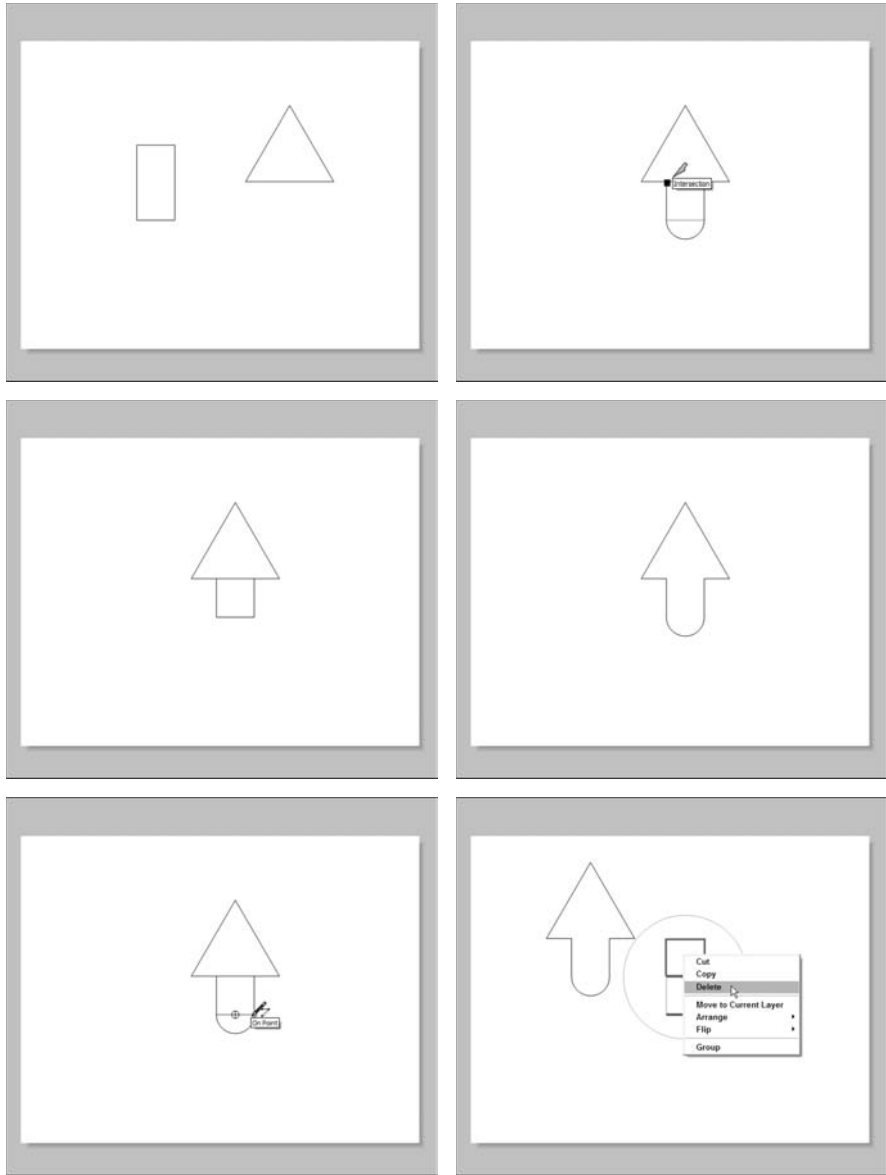

Figure 14-9: Drawing a simple arrow by combining a rectangle, a triangle, and an arc.
- ✓ **Build complex shapes out of simpler ones.** I'll use an example here: Figure 14-9 shows how I would draw a simple arrow. You can follow these steps to build one just like it: